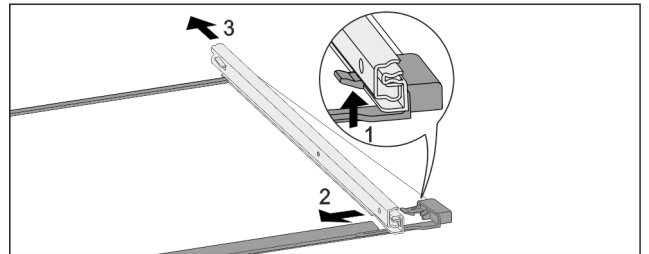

Fig. 133 Glass shelf with rails
- ▶ Push up front click-in hooks. Fig. 133 (1)
- ▶ Move the pull-out rails to the side Fig. 133 (2) and to the rear Fig. 133 (3).